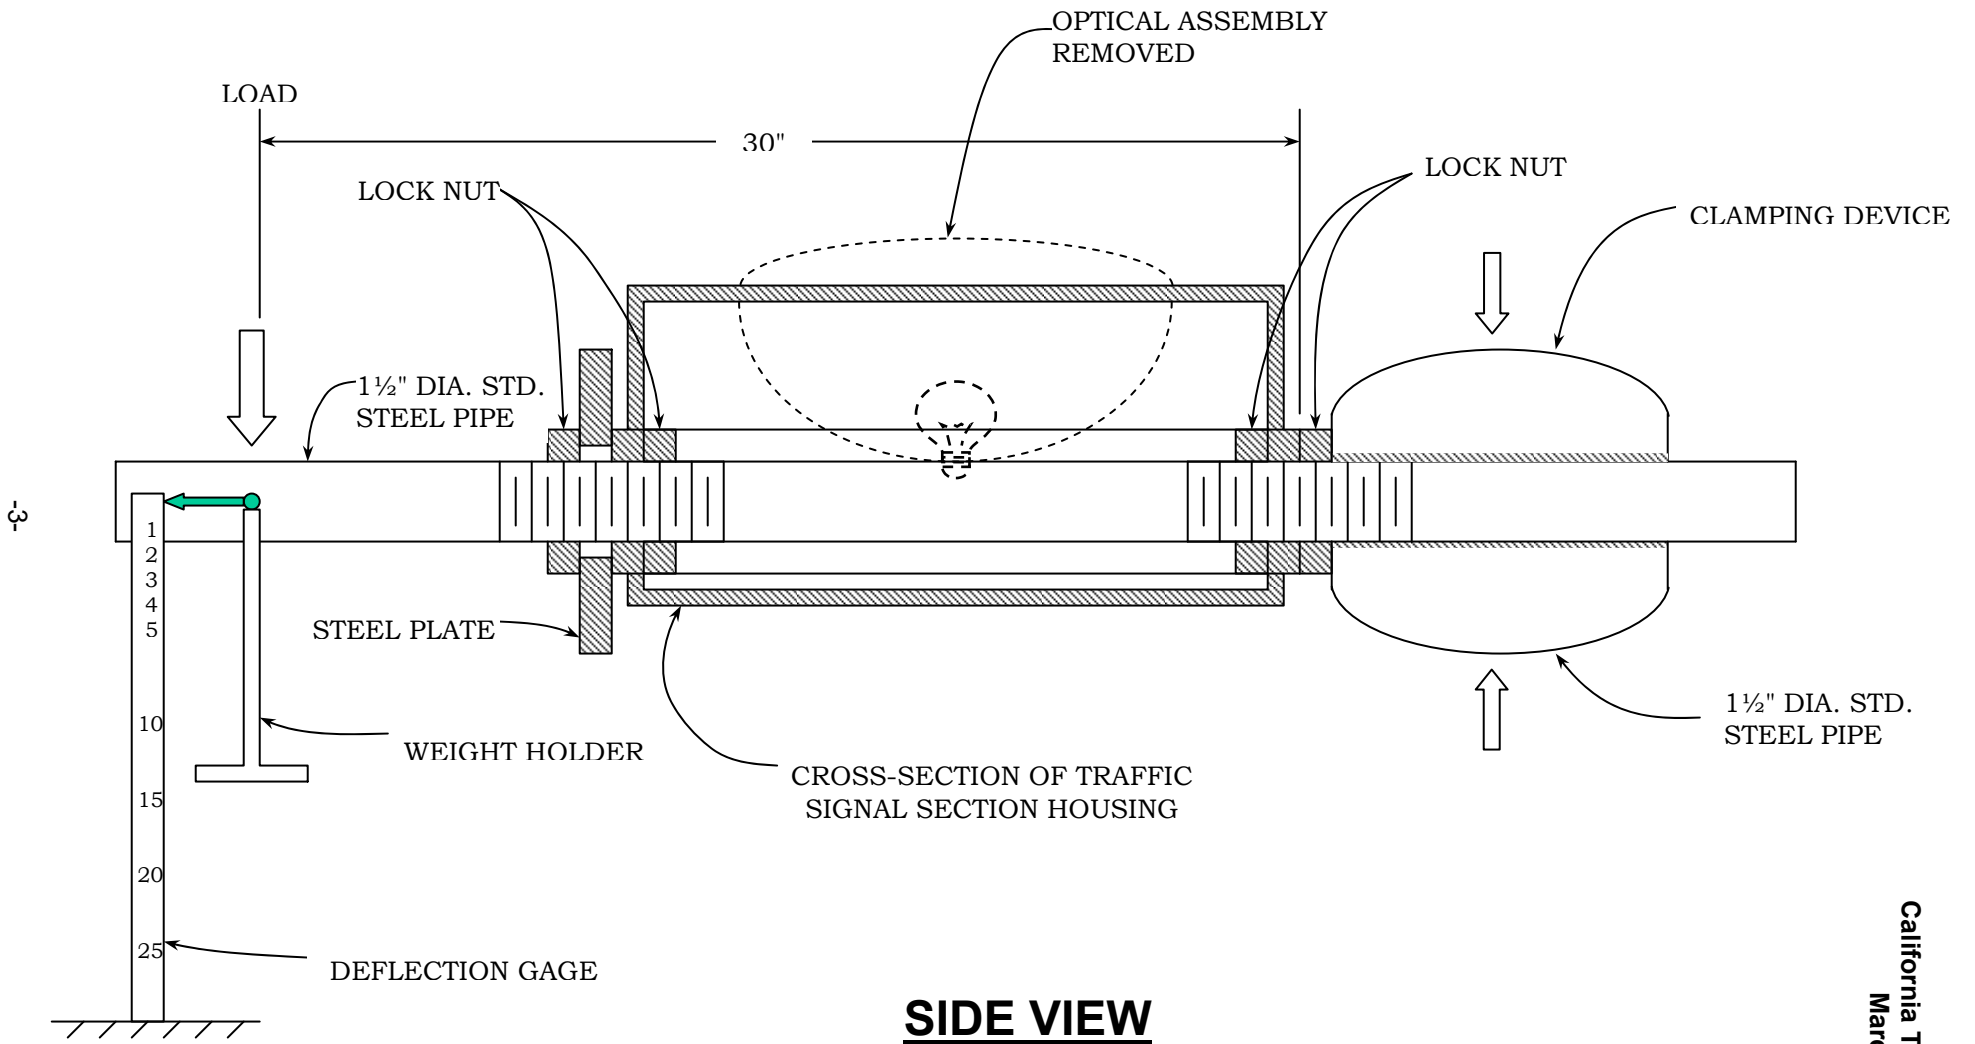

FIGURE 1. Test Procedure Set-up
1. Assemble a single section without the optical unit as shown in Figure 1.
2. Slowly apply test load¹ at point indicated on Figure 1.